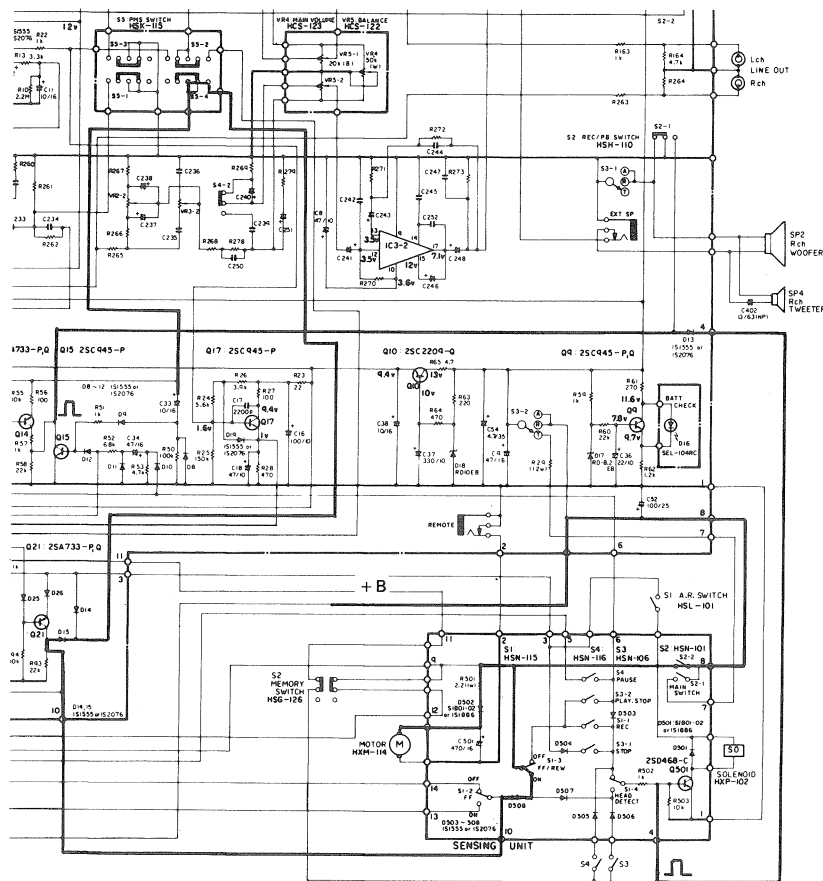

Fig. 15
- 7-4. The head base is raised and the tape is set to the traveling state. Refer to Fig. 15.